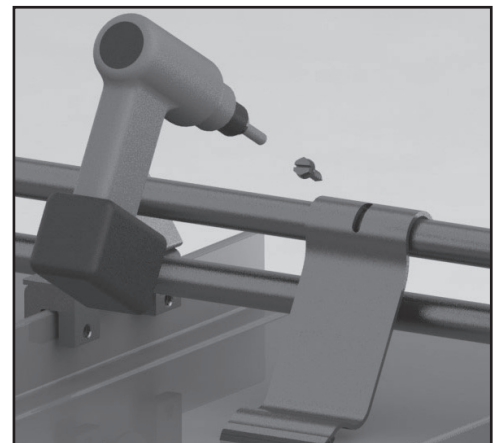

Fig 3: Fasten each DualClip to upper 1 inch pipe
3. Secure the DualClip directly to the cross-member by driving the screw through the pre-punched slot of the DualClip at the location where the pipe touches the slot, using a 5/16" drive socket (Fig 3). Be careful not to overtighten the screws; if screw gun RPMs accelerate, it has likely been stripped out. If a fastener has been stripped, it is important to remove the fastener, shift the DualClip over slightly, and re-fasten. To avoid stripping, use a screw gun with adjustable torque clutch.